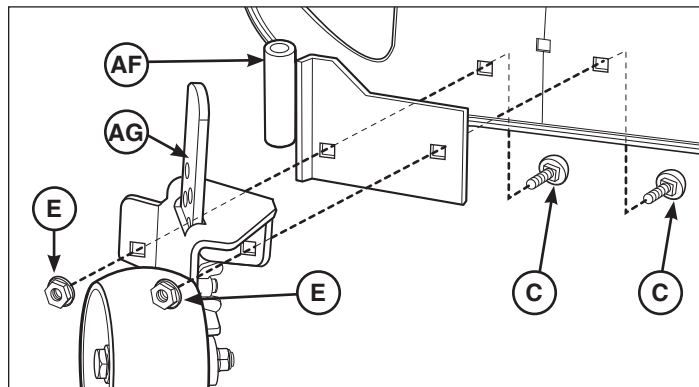

Figure 12
1. From inside of mower, insert carriage bolt (C, Figure 12) through hole closest to the right of the discharge opening.
2. Assemble 52" mower pivot bracket (AF) and front adjustable wheel gage assembly (AG). Secure with nut (E).
3. From inside of mower, insert carriage bolt (C) through hole, 52" mower pivot bracket and front adjustable wheel gage assembly. Secure with nut (E).